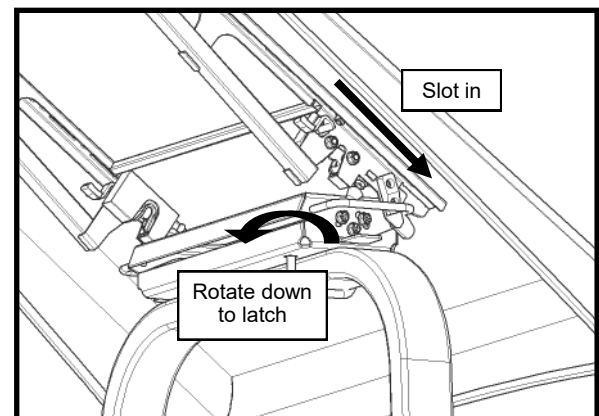

Fig. 5A (Latch Canopy)
5. Loosen the jam nut on each bumper (ref. figure 5B), then mount and latch the canopy per fig. 5A. With one hand, push upwards on the canopy to take up the play in the latches. With the other hand, unthread both bumpers down finger tight to the striker plate. Unlatch and pivot the canopy up to further unthread each bumper equally one full turn at a time. Re-latch and check latching resistance after each adjustment. The bumpers should stabilize the canopy and it should require downward force to latch, but not so much that double clicking the latches becomes difficult. Unlatch a final time and tighten the jam nut on each bumper.